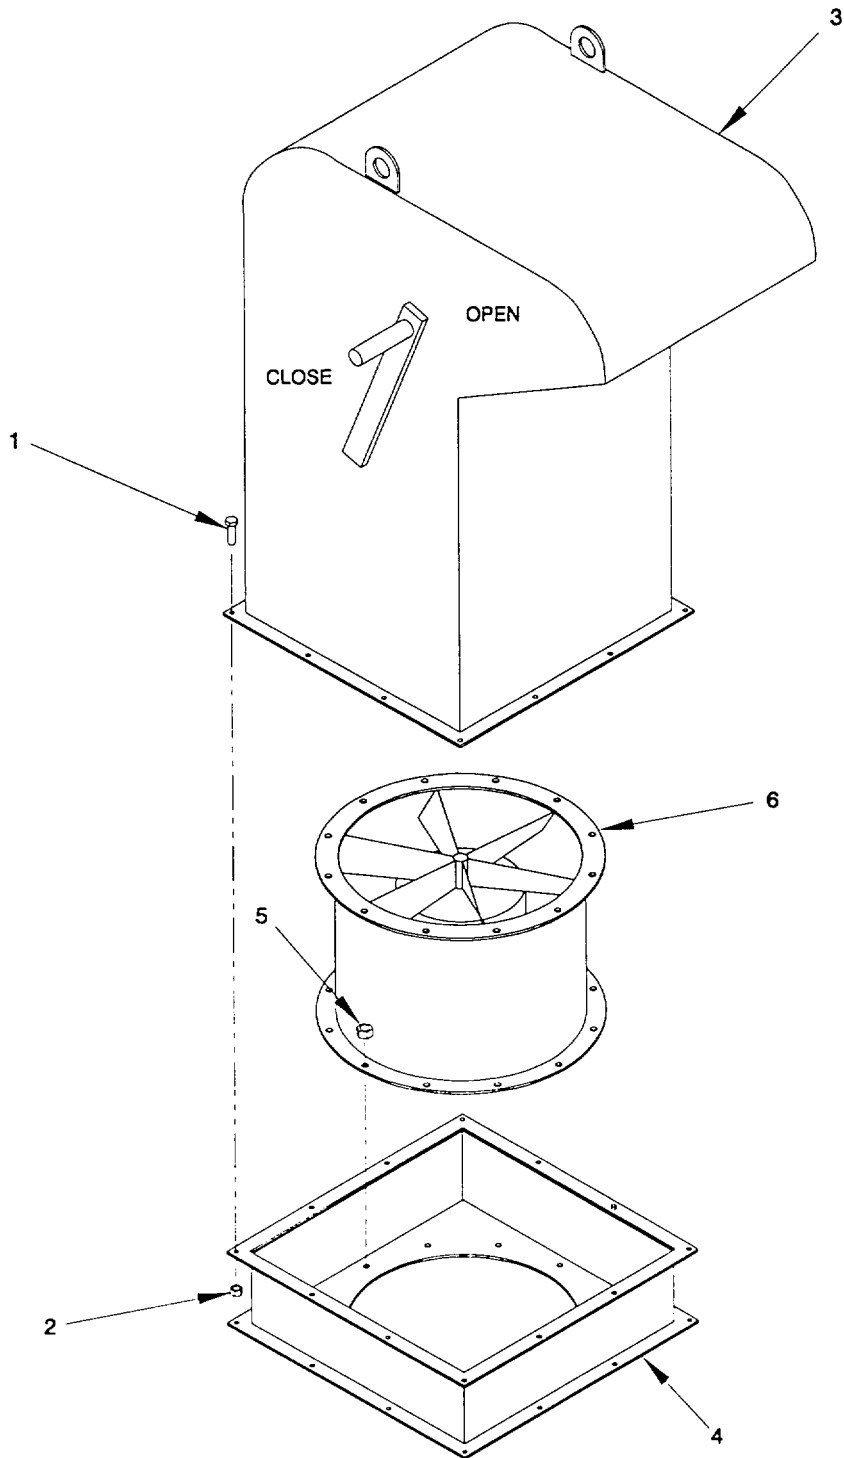

Figure 2-166. Ventilation Fan. Exhaust Plenum. Remove/Install.
a. Remove. (figure 2-166)
- (1) Tag and disconnect electrical wiring to ventilation fan (6). Refer to Appendix G.
- (2) Remove 12 hex head capscrews (1) and twelve hex nuts (2) securing exhaust plenum (3) to exhaust blower mount (4) Remove exhaust plenum (3).
- (3) Remove 12 hex nuts (5) securing ventilation fan (3) to exhaust blower mount (4). Remove ventilation fan (6)
- (1) Check the blower impeller for any buildup of foreign material or wear from abrasion. Replace the blower if excessive wear is noticed.
- (2) Clean the blower impeller of any foreign material.
- (3) Tighten all bolts and setscrews on the ventilation fan assembly.
c. Install. (figure 2-166)
- (1) Position ventilation fan (6) on exhaust blower mount (4). Secure ventilation fan (6) with 12 hex nuts (4)
- (2) Position exhaust plenum (3) on exhaust blower mount (4). Secure exhaust plenum (3) with 12 hex head capscrews (1) and 12 hex nuts (2).
- (3) Reconnect electrical wiring, as tagged, to ventilation fan (6). Refer to Appendix G.